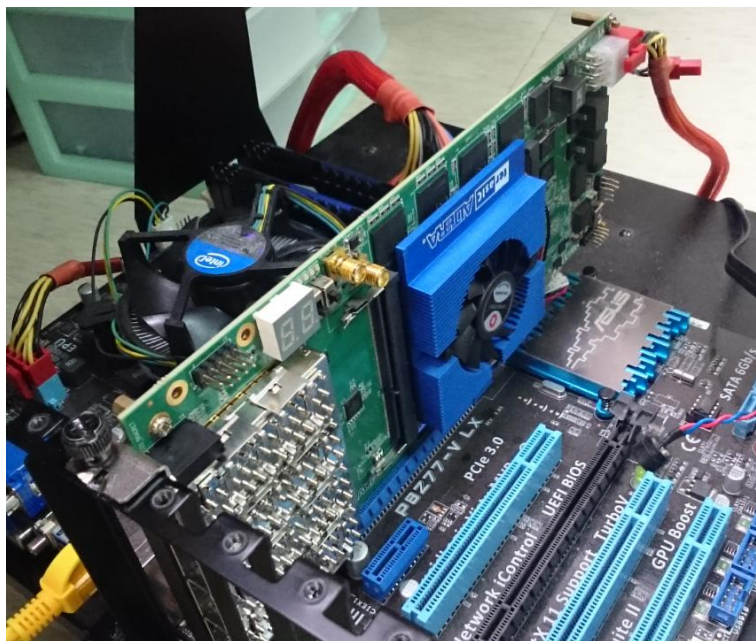

Figure 7-9 FPGA board installation on PC
1. Install the FPGA board on your PC as shown in **Figure 7-9**.